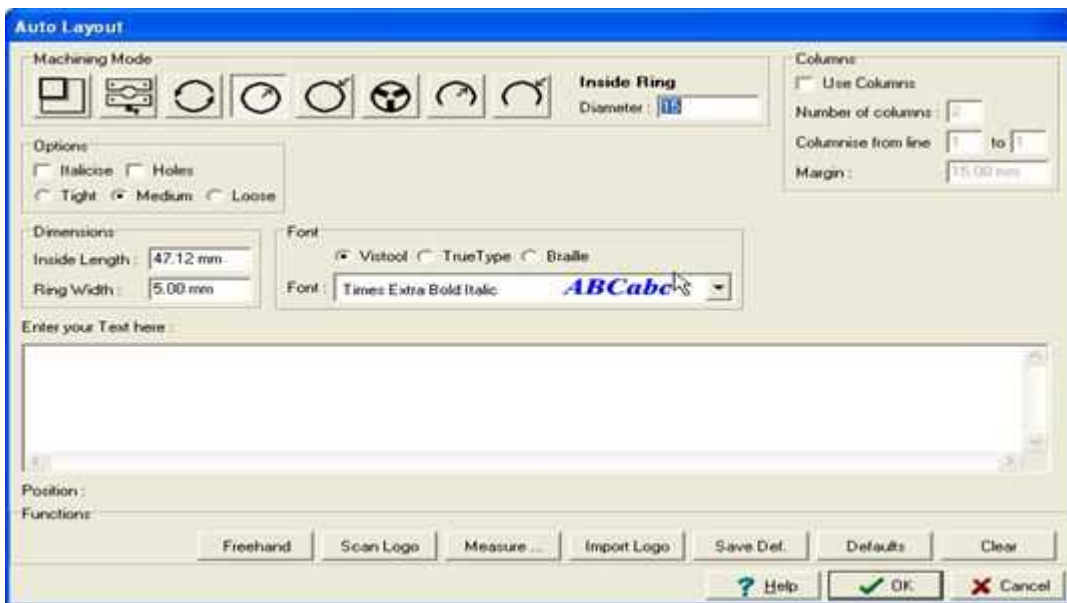

Figure 3
- 3 Enter your text and select the required Font, Click On "Ok", see Figure 3.